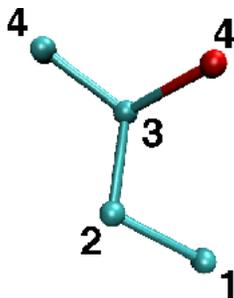

Figure 4: Number labels for atoms which are a given amount of bonds away from one another
- **temperature**: sets the initial temperature of the system in Kelvin (K), with the value listed next to it (in this case `$temperature`, or 310). This is done by assigning random velocities to atoms picked from a Maxwell distribution such that their average kinetic energy accurately represents the given temperature.
- **exclude**: specifies which atomic interactions are to be excluded from consideration. See Figure 4 for general atom labels. The **scaled1-4** value indicates that interactions between any such atoms 1 and 2 and 1 and 3 are neglected and interactions between atoms 1 and 4 are weakened. The van der Waals interaction for “1-4” atoms are modified using special 1-4 parameters defined in the parameter files, and electrostatic interaction is modified as shown in the next command.